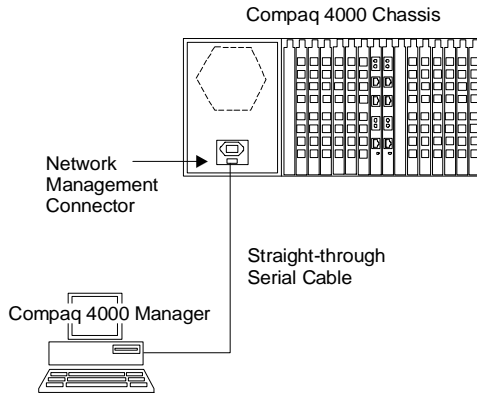

Figure 2-14. Attaching a Straight Through Cable
1. Attach a DB9 connector of a straight through serial cable to the network management connector on the rear of the chassis' power supply. (Compaq supplies a DB9-to-DB9 straight through serial cable with your chassis.) See Figure 2-14. Make sure that the cable contains all nine pins.